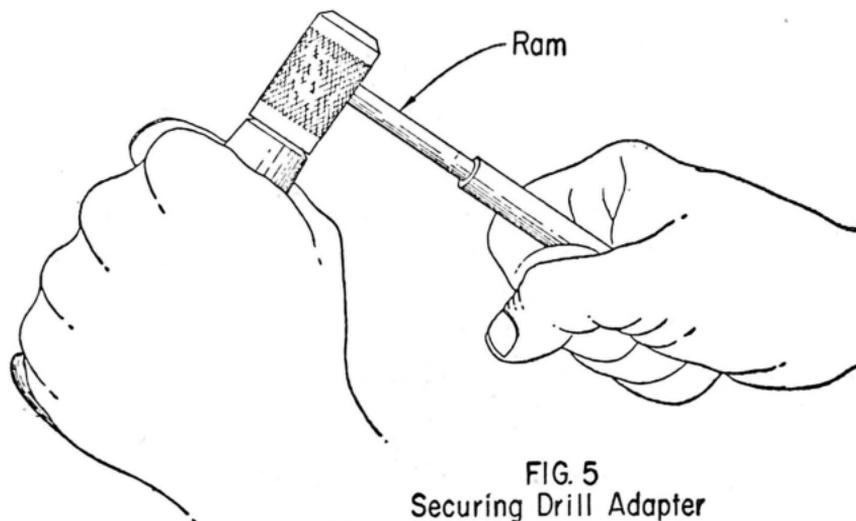

FIG. 5
3.04 Install drill holder by screwing to the applicator using the ram as a wrench. See Fig. 5.